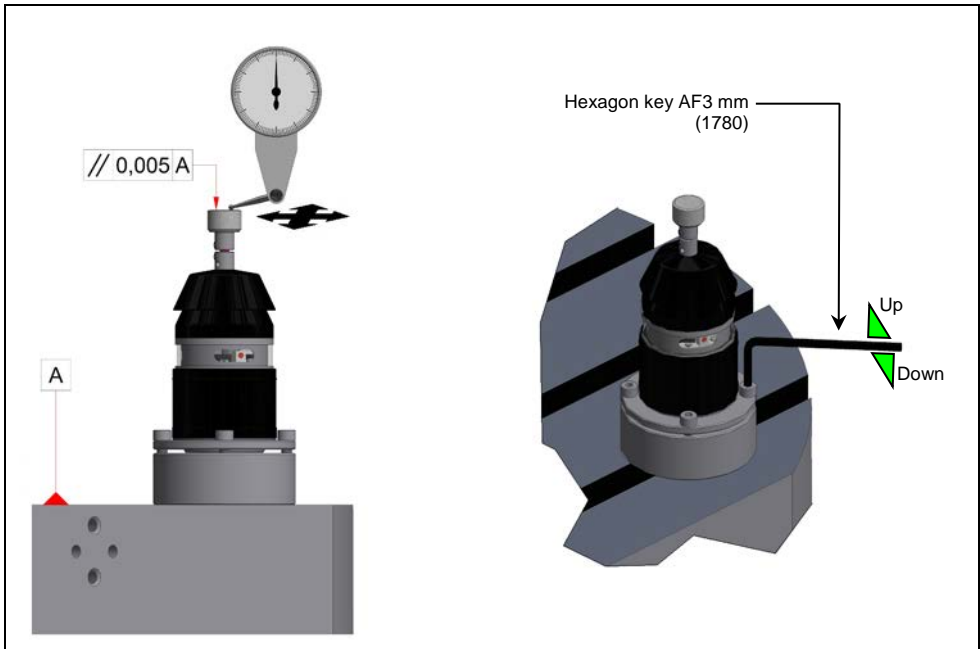

Fig. 17 Aligning the Stylus
To align the stylus, the measuring surface of the Tool Setter is touched (manually) by a dial gauge which is installed in the spindle and afterwards the measuring surface is sensed along the X- and Y-axes. The deviation measured with this procedure must be  $<5 \mu\text{m}$  (refer to Fig. 17). If the measured value exceeds this limit the stylus must be aligned as follows.
1. Using the hexagon key AF3 mm turn the adjustment screws to lower/lift the Tool Setter at the appropriate point and to correct the inclination (refer to Fig. 17).
5. Calibrate Tool Setter (refer to chapter Fig. 17).